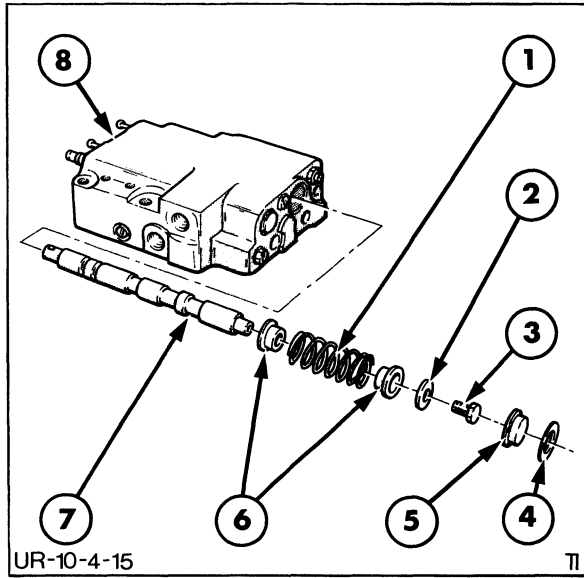

FIGURE 8-83
3. Remove the centering spring retaining screw and separate the washers, spring cups and spring, Figure 8-83.